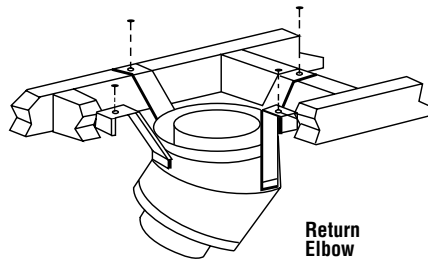

Figure 41
Step 5. Secure support straps to framing members by fastening under tension in sheer (*Figure 41*).